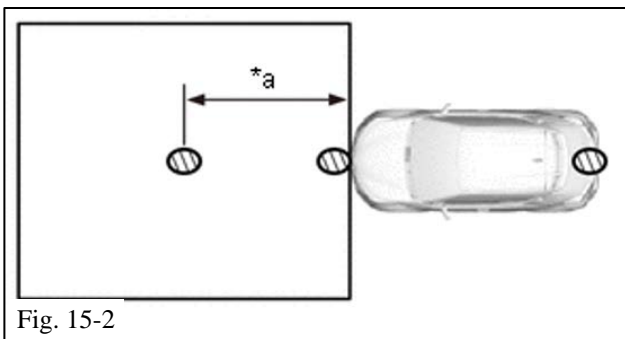

Fig. 15-2
- (b) Check the levelness of the ground at the 3 points shown (Fig. 15-2).